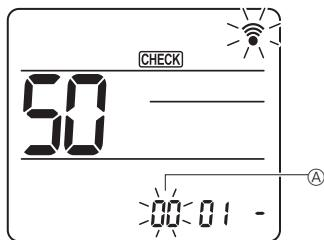

Fig. 6-19
- ③ Setting the unit number
Press the **▲** button to set unit number ④. (Fig. 6-19)